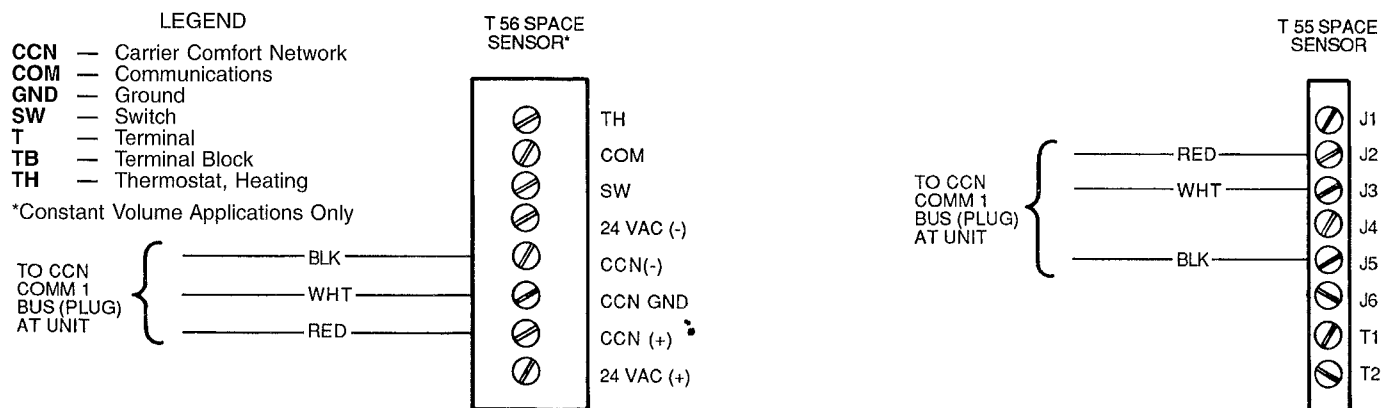

**Fig. 18 — CCN Communications Bus Wiring to Optional Space Sensor RJ11 Connector**
**RJ11 PLUG WIRING** — Units on the CCN can be monitored from the space at the sensor through the RJ11 connector, if desired. To wire the RJ11 connector into the CCN (Fig. 18):